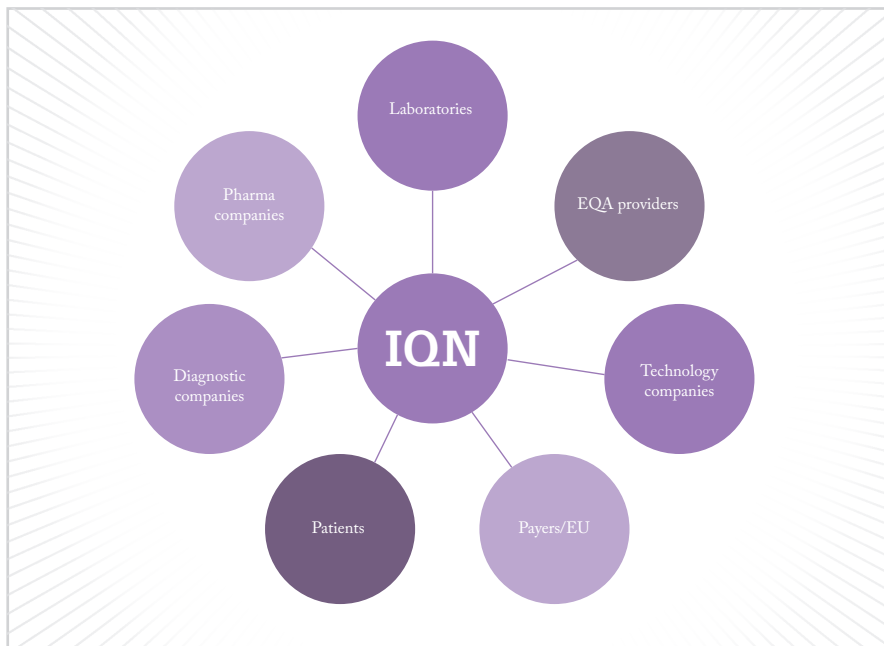

Figure 1. The stakeholders involved in biomarker testing quality, one area where EQA is rapidly evolving.
Recognizing the inherent difficulties in standardization, EQA providers came together to form the International Quality Network for Pathology (2), a not-for-profit group that aims to encourage global harmonization by seeking areas for potential cooperation between EQAs providers, laboratories, diagnostic companies and patients (see Figure 1). IQN Path's goals are multiple: